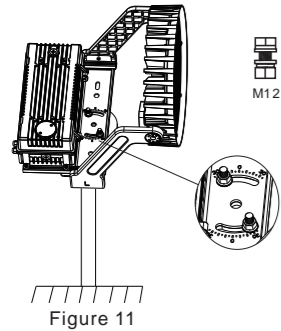

Figure 11
1. According to the need to adjust the lighting direction, there can be a 360 degree rotation adjustment. Tighten with screws when the adjustment is completed (Figure 11);